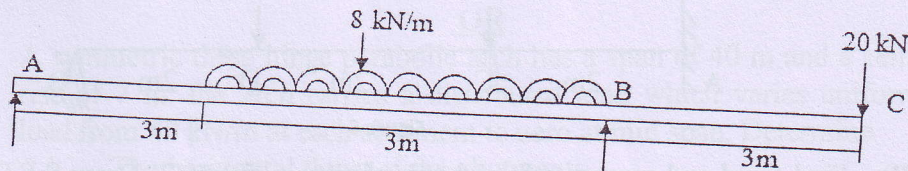

Figure 1
- (B) Determine slope and deflection at any point C as shown in figure 1 below. Use Macaulay's method. 07